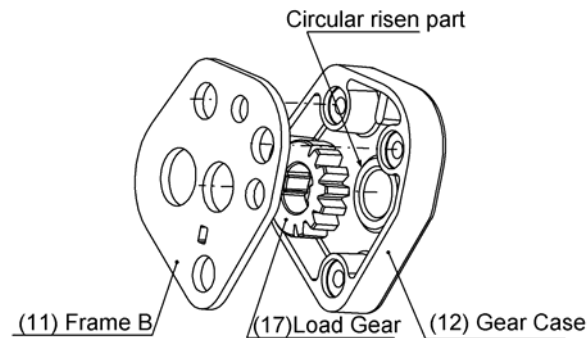

Figure 5-1 Load Gear and Frame B Attachment to Gear Case
Refer to Figure 5-1 and proceed as follows:
- 1) Apply (G3) grease to the cogs of (17) Load Gear.
- 2) Place (12) Gear Case on a flat surface and set (17) Load Gear to the center of the circular risen part inside the gear case as shown in Figure 5-1.
- 3) Align the holes and rims of (12) Gear Case and (11) Frame B.